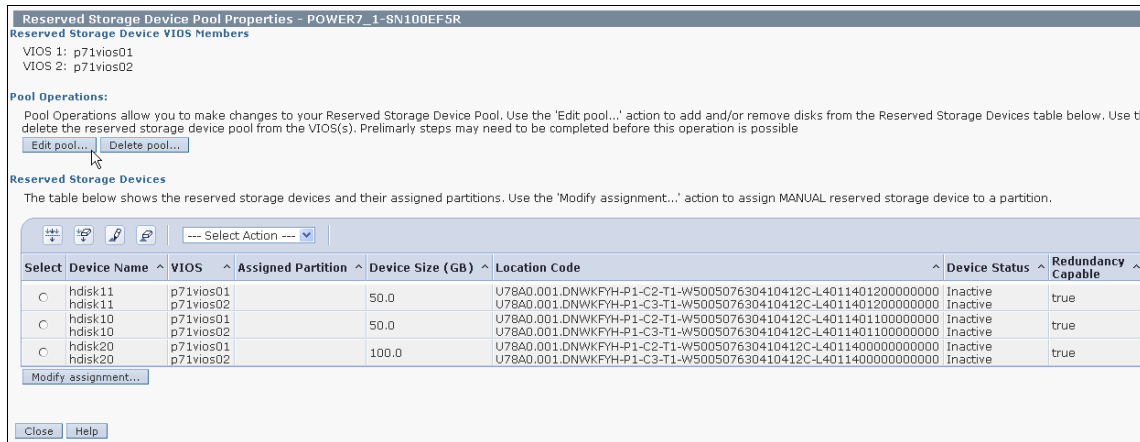

Figure 13-8 Reserved storage device pool management
3. Click **Edit Pool** as shown in Figure 13-8.